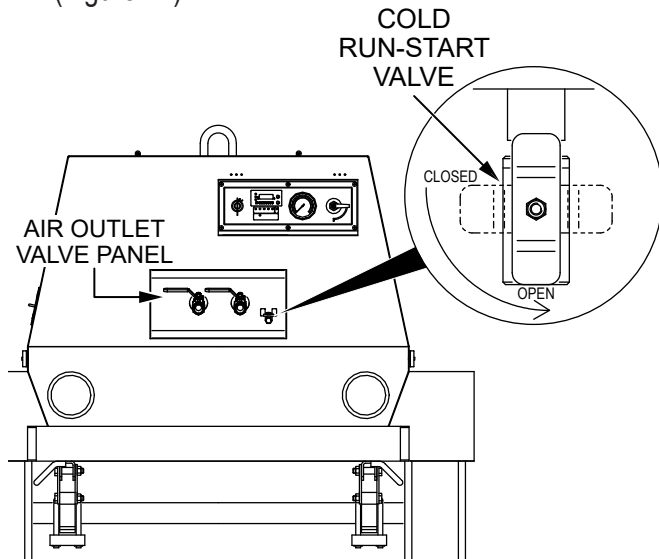

Figure 22. Cold Start-Run Valve (OPEN)
1. If starting the engine in cold weather conditions, place the **cold start-run valve** in the **OPEN** position (Figure 22).